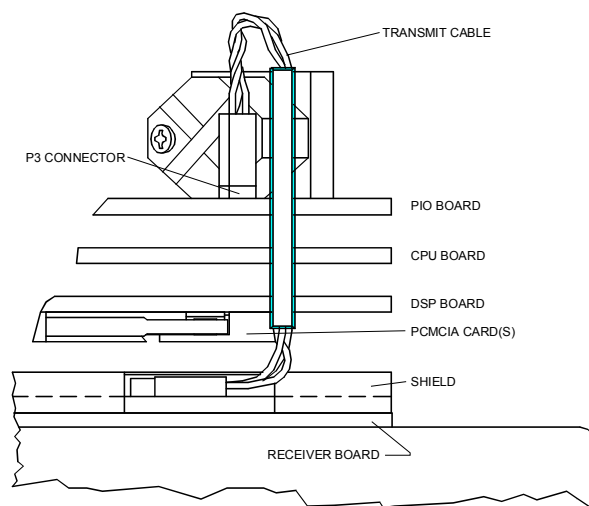

Figure 18. Transmit Cable
- c. Note the orientation of the transmit cable connector as it is plugged into the PIO board and to the Receiver board (see Figure 18).